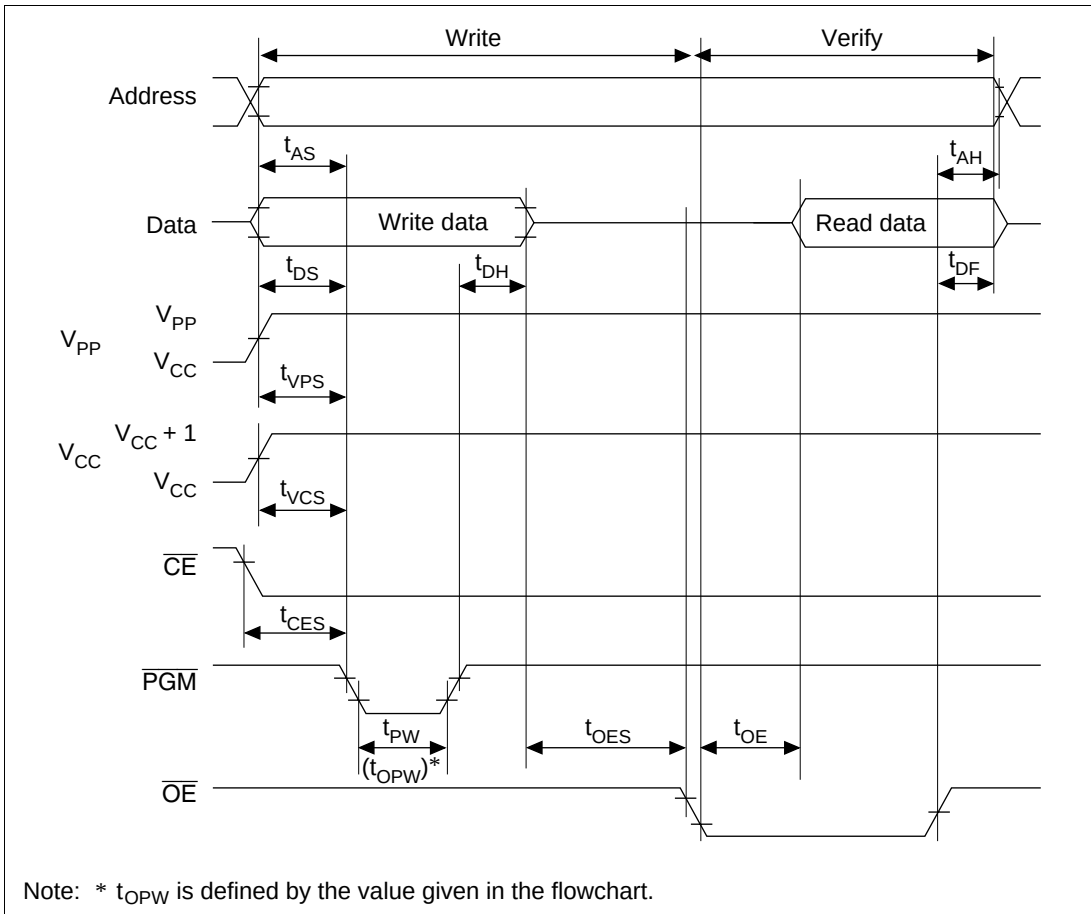

**Figure 17.5 Write/Verify Timing**
**Electrical Characteristics:** Tables 17.3 and 17.4 show the electrical characteristics of programming. Figure 17.5 shows the timing.
| Address setup time                                  | $t_{AS}$                 | 2    | —    | —    | $\mu\text{s}$ | Figure 17.5* 1 |